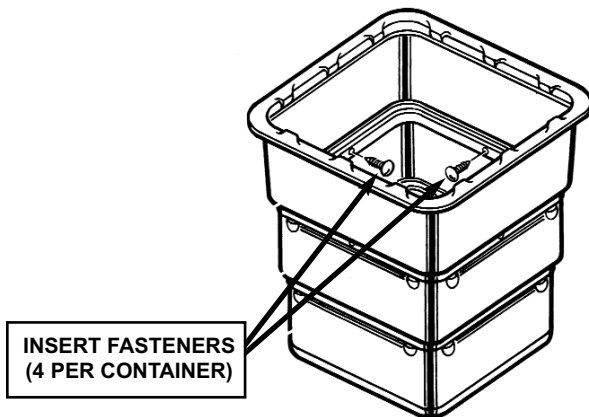

FIGURE 19
c. With the containers assembled, firmly insert one plastic fastener out through the aligned holes in all four sides where the top and middle sections meet. See Figure 19.